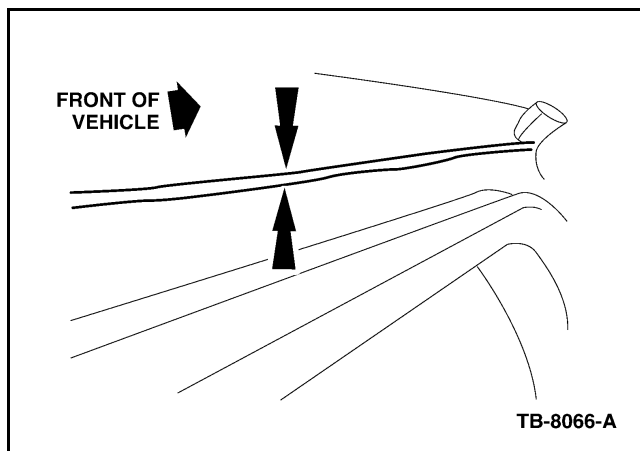

Figure 2 - Article 04-23-9
3. Inspect for gaps between the roof flange and roof rail flange (Figure 2).